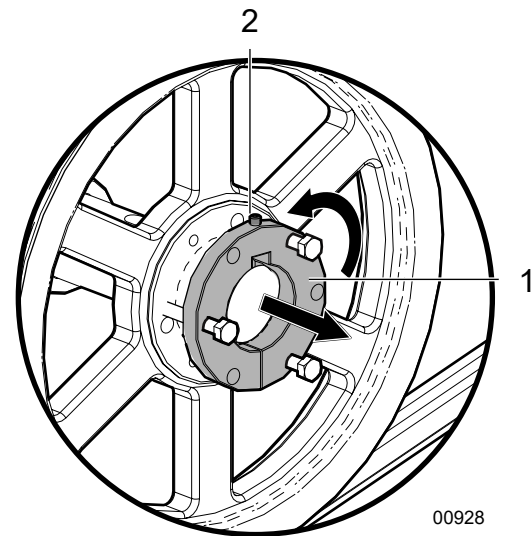

Fig. 56—Rotor Sheave
1. Loosen the set screw on the bushing attached to rotor sheave. See Fig. 56.